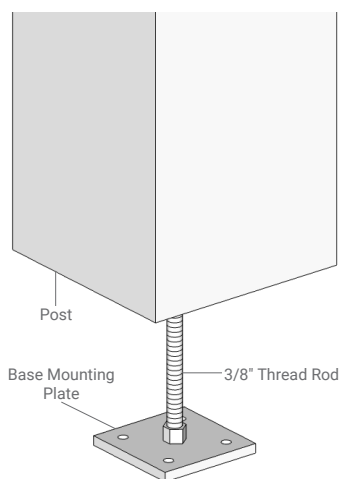

Figure 1
- Mark newel post locations and install base mounting plate at marked locations. Pre-drill holes and fasten mounting plate with adequate fasteners (not provided due to varying surfaces). Cut newel post to desired length. Cut threaded rods $\frac{1}{4}$ " shorter than newel post. Position newel post over thread rod and mounting plate, then lower newel post to conceal mounting plate. See figure 1.